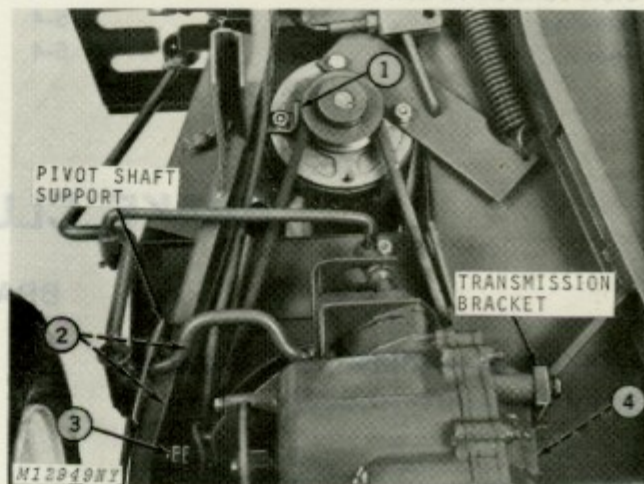

Fig. 4-Belt Guide
1. Remove belt guide, Fig. 4. Depress clutch pedal and remove drive belt from traction motor drive sheave.